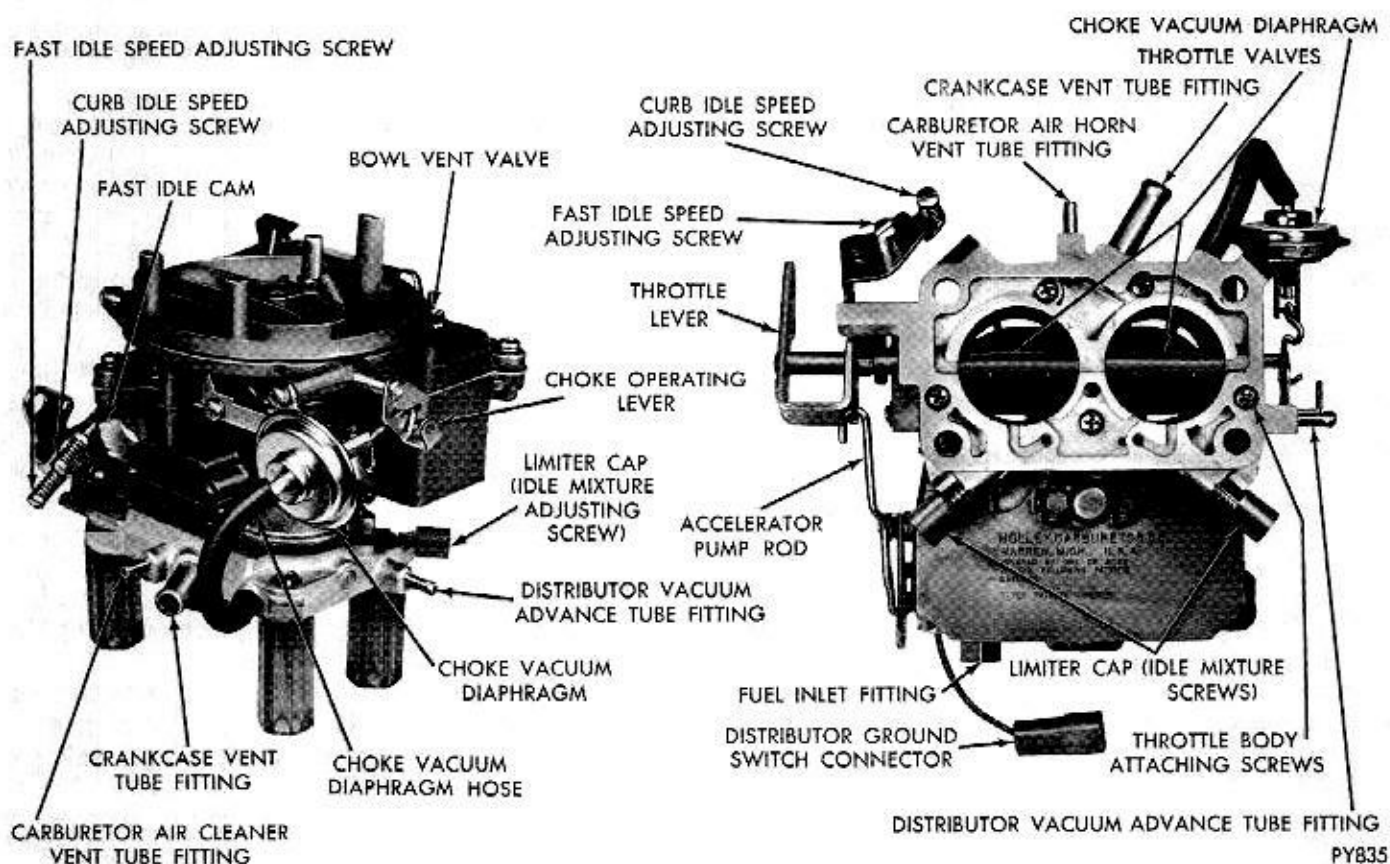

Fig. 1—Carburetor Assembly
(1) Insert three Tool T109-287S and one Tool T109-288s elevating legs through carburetor throttle body mounting stud holes. (These tools are used to protect throttle valves from damage and to provide a suitable base for working.) (Fig. 1).